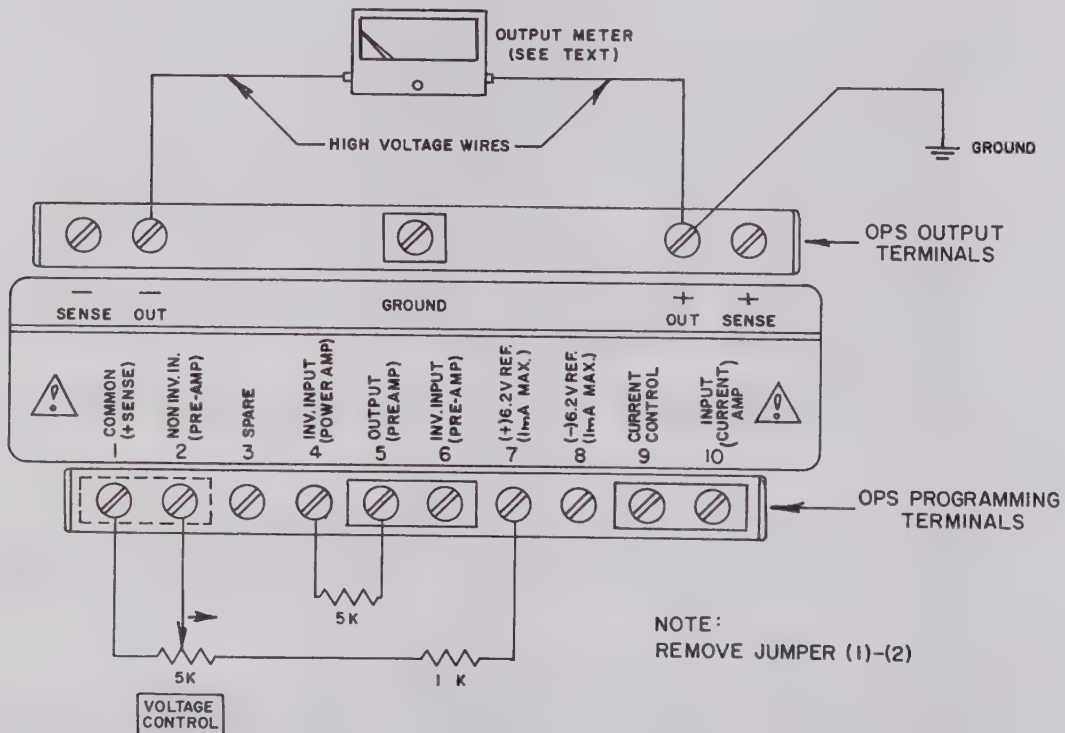

FIG. 2-4 TEST SET-UP FOR FUNCTIONAL CHECK OF THE OPS.
- 2-7 **A-C SAFETY GROUND.** THE DANGEROUS VOLTAGES PRESENT IN THIS EQUIPMENT MAKE IT IMPERATIVE THAT THE CASE IS KEPT AT GROUND POTENTIAL AT ALL TIMES. If the 3-wire line cord with 3-prong safety plug (supplied with this equipment) is used in combination with a properly grounded outlet, this is taken care of automatically. If an adapter for a nongrounded outlet is used, however, the case must be grounded separately. A separate "GROUND" terminal is provided for this purpose on the rear of the OPS. (See FIG. 2-4.)
2-13 PROCEDURE, FUNCTIONAL CHECK (Refer to FIG. 2-4)
- 2) Remove jumpers (1)–(2) on the REAR PROGRAMMING TERMINALS and connect wires to terminals (1), (2), and (7). Connect two (2) wires to the REAR OUTPUT TERMINALS (– out) and (+ out). NOTE: THESE TWO WIRES MUST BE HIGH VOLTAGE WIRES WITH AN INSULATION RATING OF AT LEAST 2 k VOLTS.
- 4) Connect a 5 k ohm potentiometer in series with a 1.5 k ohm fixed resistor to the REAR PROGRAMMING TERMINALS (1), (2), (7) as shown in FIG. 2-4. Connect a fixed resistor (5 k ohm) between terminals (4) and (5). Connect a suitable voltmeter to the REAR OUTPUT TERMINALS as shown in FIG. 2-4. MAKE THE GROUND CONNECTIONS AS SHOWN IN FIG. 2-4.
- 5) Connect the OPS to a grounded a-c power outlet. Turn the connected VOLTAGE CONTROL potentiometer to the position of zero resistance between terminals (1) and (2) as shown in FIG. 2-4.